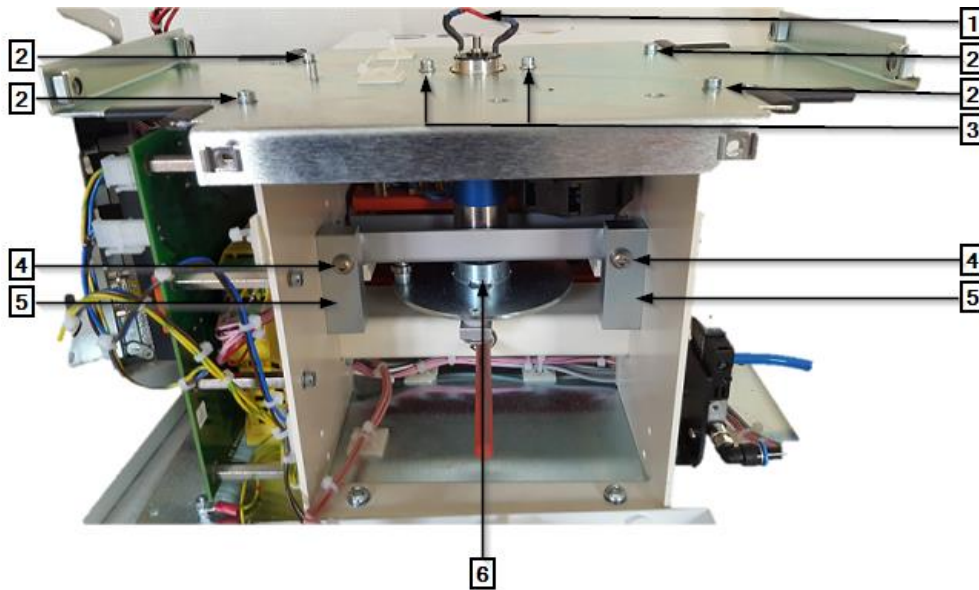

Fig. 79 : Motor module without coverings (view from rear)
- ➔ Unlock the tie-wraps between the processor and the capacitor. For the following description, see Fig. 79 : Motor module without coverings (view from rear), page109.
- ➔ Check that the heater chamber jaw gap is parallel to the heating chamber in the **Load** position. If required, adjust the motor positioning screws (2).
- ➔ Tighten the M6×40 motor positioning screws (2) and the safety nuts on base (1) of the motor module firmly.
- ➔ Position and tighten the fixing screws to the motor mount. See Fig. 79 :Motor module without coverings (view from rear), page 109.